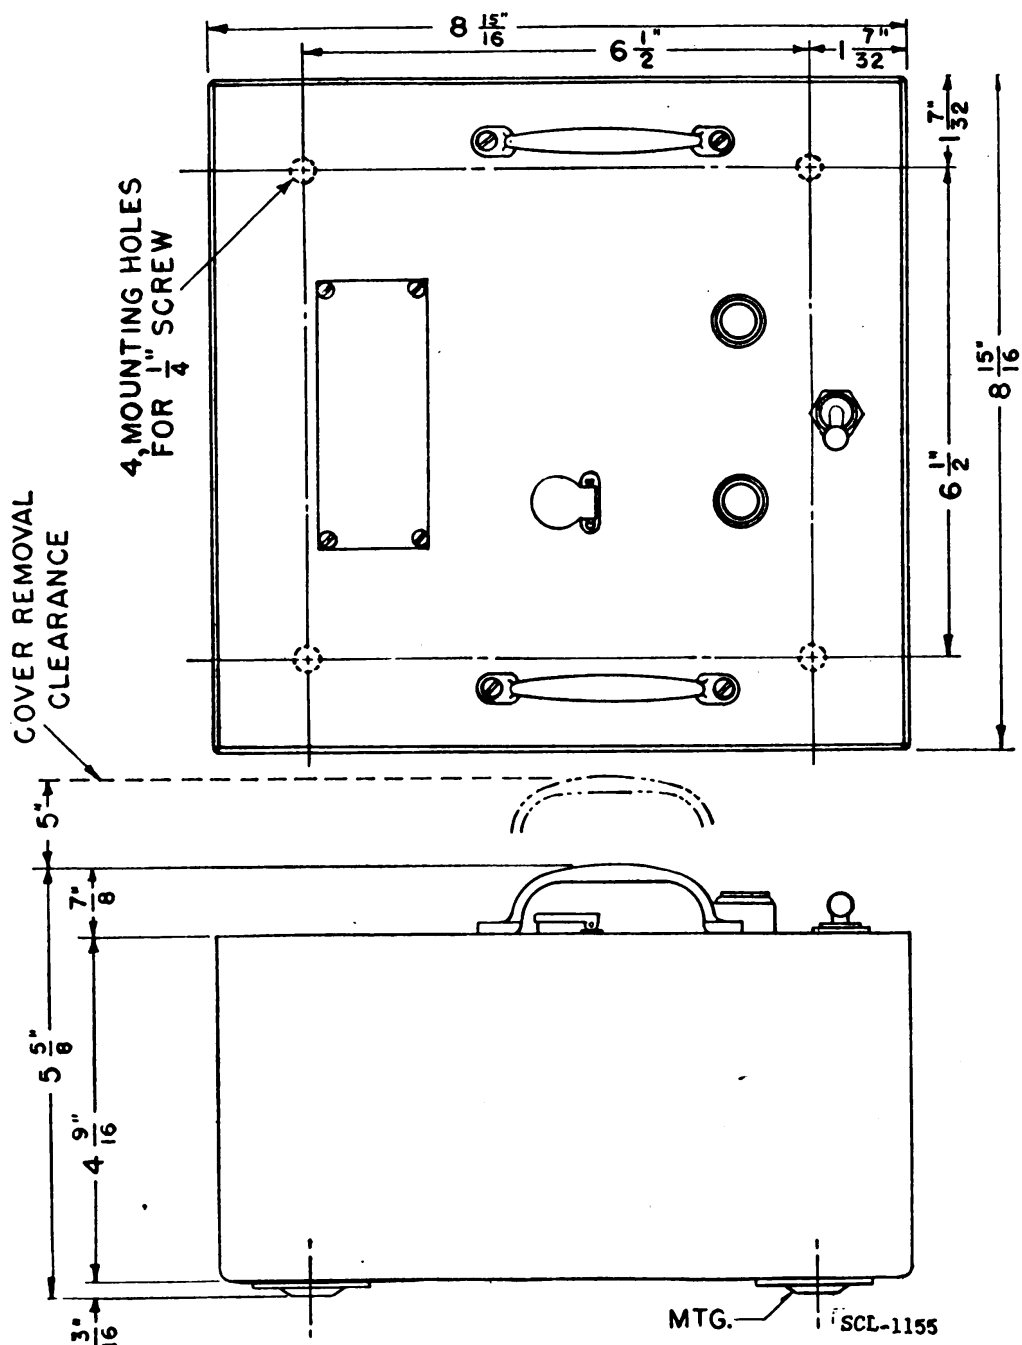

FIGURE 1.—Interphone amplifier BC-367 or BC-667.
a. *Interphone amplifier BC-367 or BC-667* (fig. 1).—This unit consists of a panel and tube chassis assembly fitting into a sheet steel